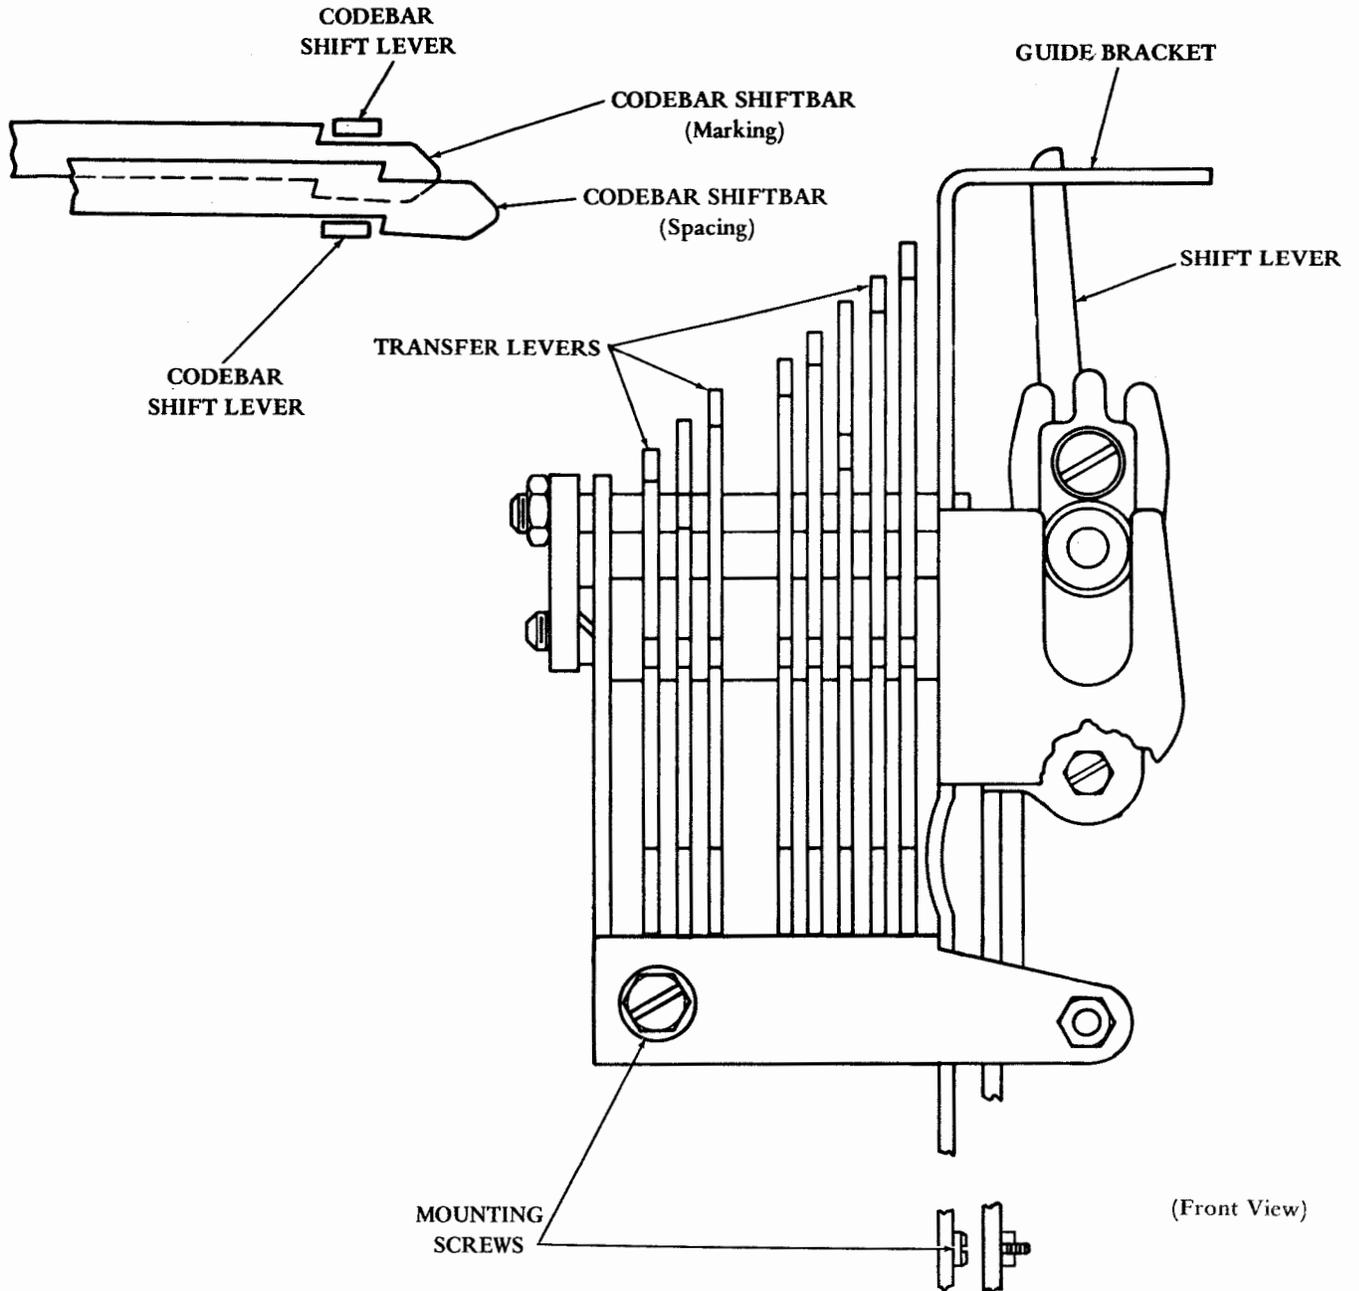

Figure 13 - Codebar Positioning Mechanism
2.32 To remove the codebar positioning mechanism from the unit, proceed as follows (Figure 13).
2.33 Replace the codebar positioning mechanism (Figure 13) by reversing the procedure used in removal, except push the shiftbars to the marking position (left/pushed in). Manipulate the shiftbars and transfer levers so that the shiftbars line up with their respective slots in the guide bracket and slide shiftbars one at a time through the slots. Replace the front plate assembly as described in 2.15.